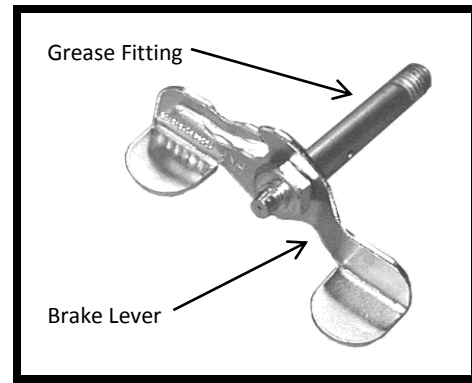

Figure 50: Grease Fitting and Brake Lever
3. With a 3/4 in. box-end wrench, unscrew the caster nut and unscrew the caster from the gurney (Figure 50).
5. Place the grease fitting through the brake lever (Figure 50).